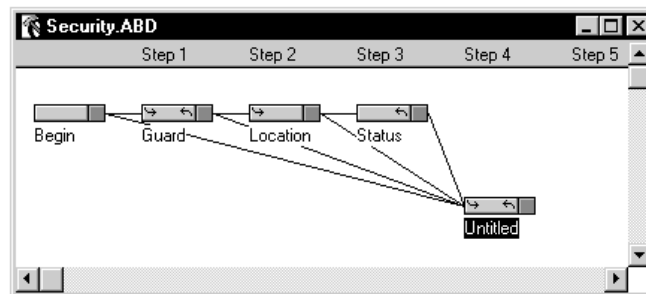

Figure 4-7 New Untitled Input Handler Selected
- Select the new Untitled Input Handler (Figure 4-7).